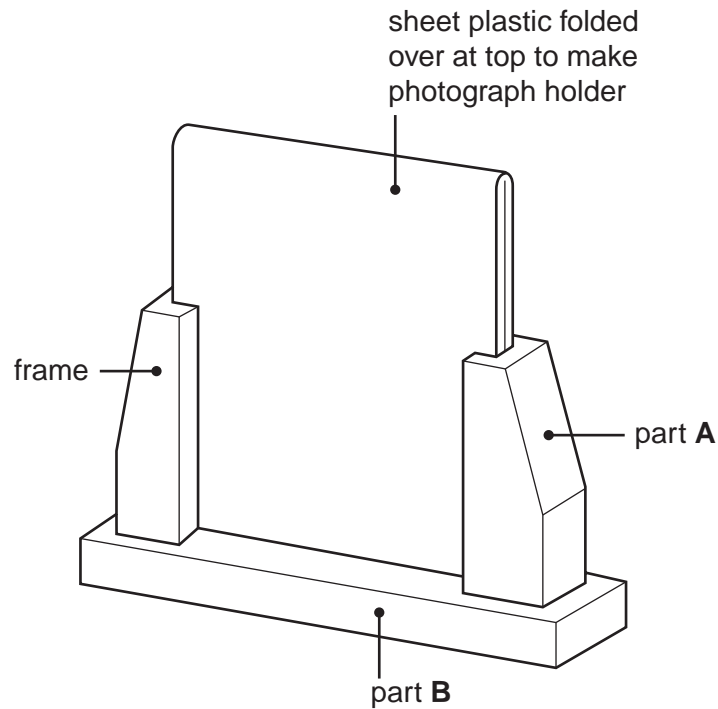

**Fig. 1**
- 1 Fig. 1 shows a small shovel which is to be made in a school workshop. The shovel will be used to move hot charcoal on a barbecue.